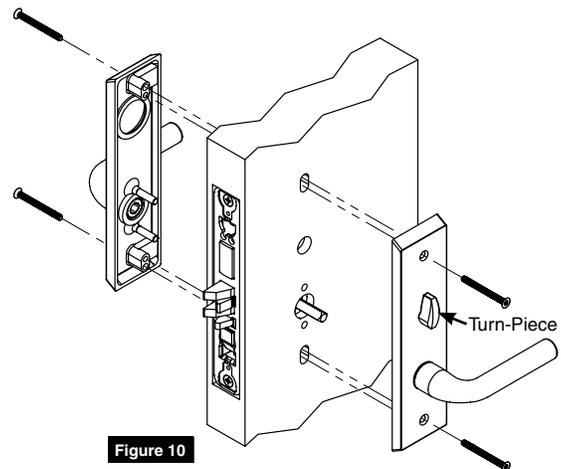

Figure 10
5. Rotate lock front to match bevel of door, as shown. (Figure 10)
4. Mount escutcheon assemblies. (Figure 10)